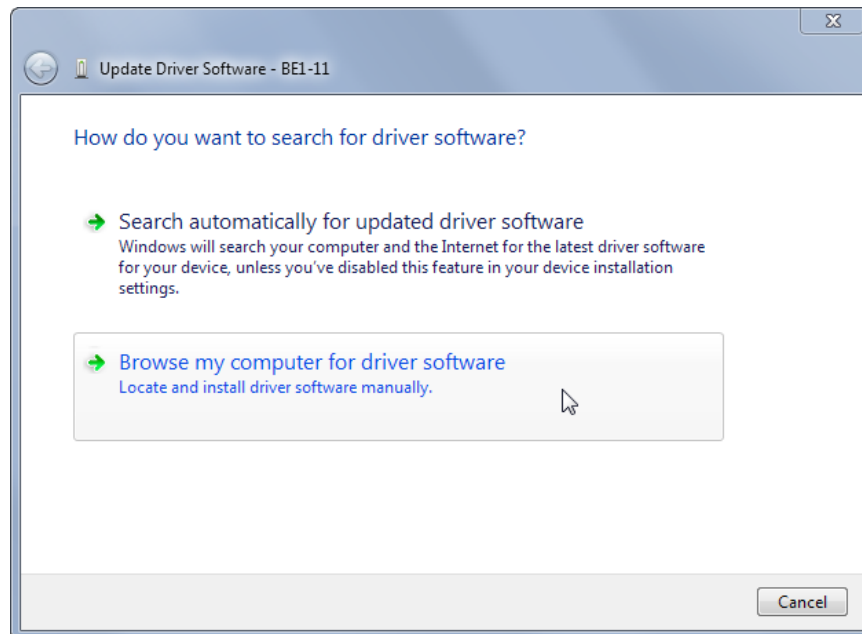

Figure 45-4. Update Driver Software - BE1-11
Step 4. Select Browse My Computer for Driver Software as shown in Figure 45-4.